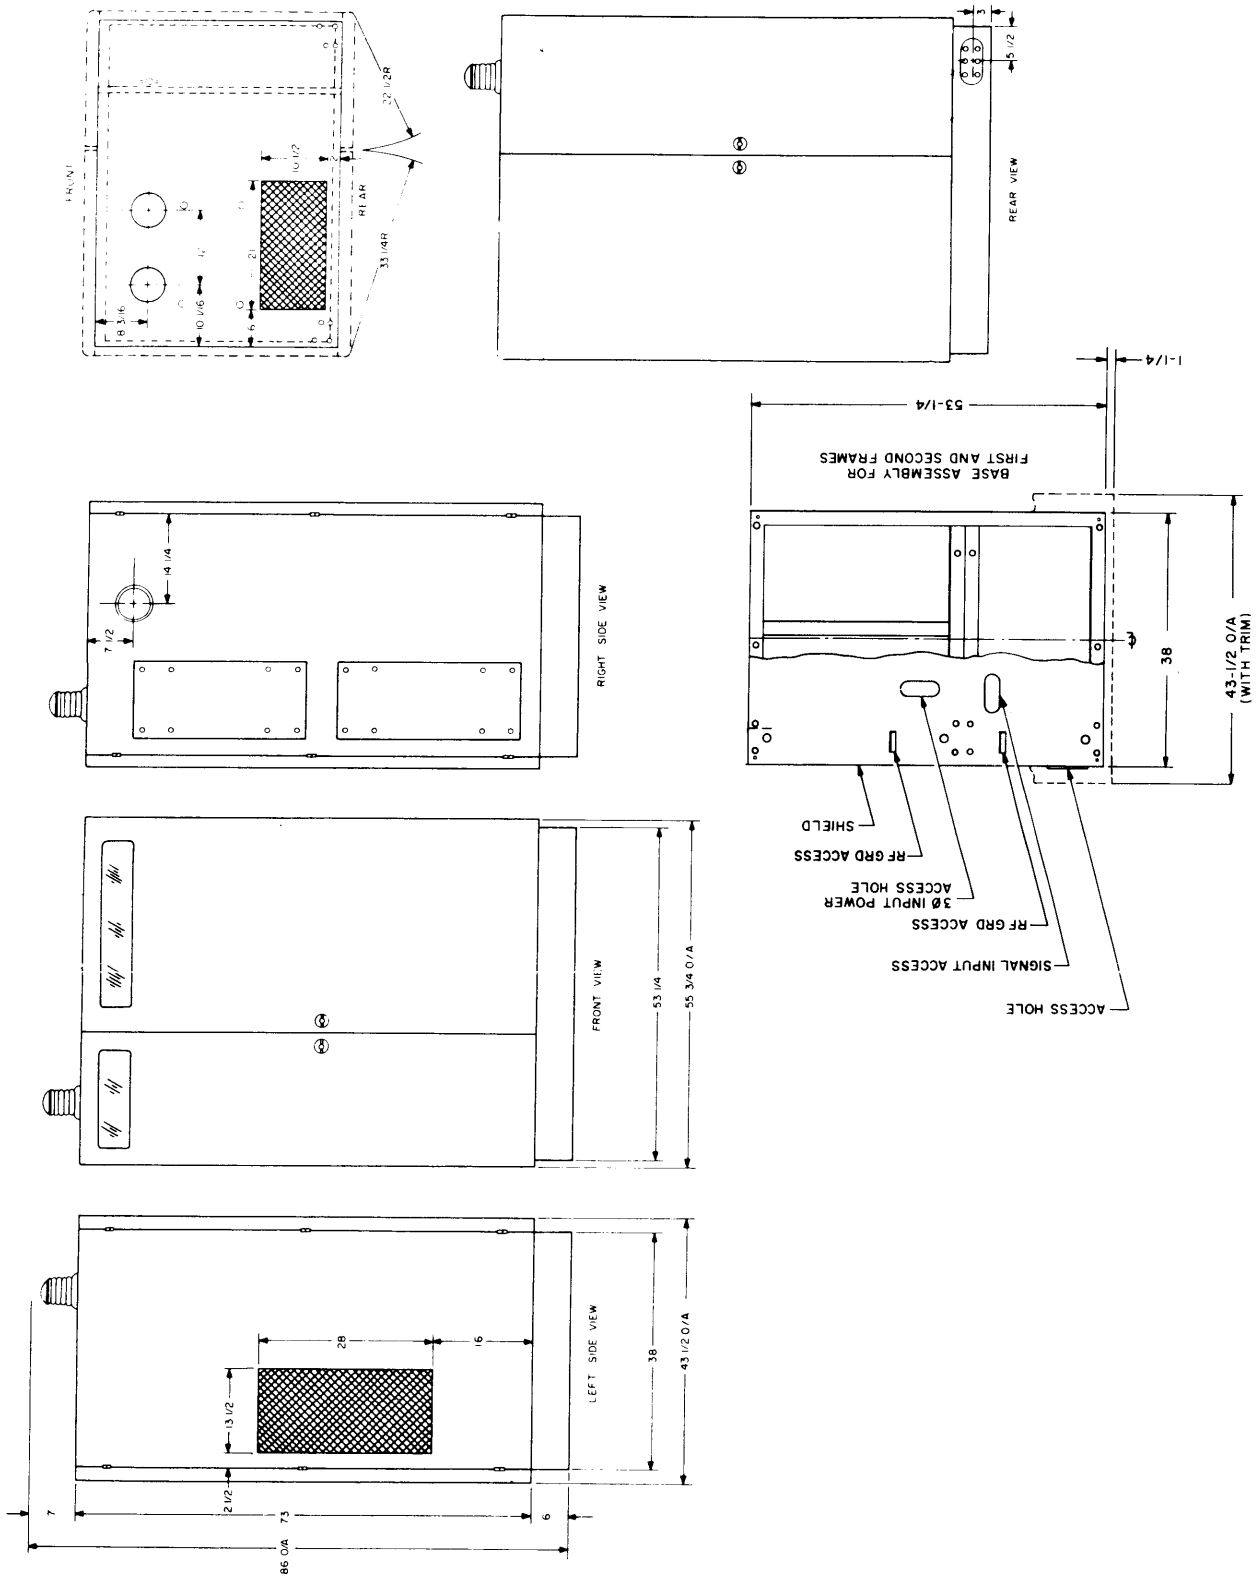

Figure 2-1. Dimensions of GPT-10KLF Transmitter, Installation Diagram
d. DIMENSIONS. - Figure 2-1 illustrates dimensions of the GPT-10KLF transmitter; additional clearance considerations are discussed in following paragraphs. Additional dimensions are given in table 1-1.
After planning final transmitter location, the air intake and exhaust port dimensions, figure 2-1, can be used as a reference in and for fabricating the desired air duct system. If transmitter air ducts are not connected to a central room system, location and sizes of exterior wall cut-outs must be considered.
2. Ac input power and input signal cables must be routed through appropriate access holes in shield (figure 2-1).
- (7) Unpack crate 3.